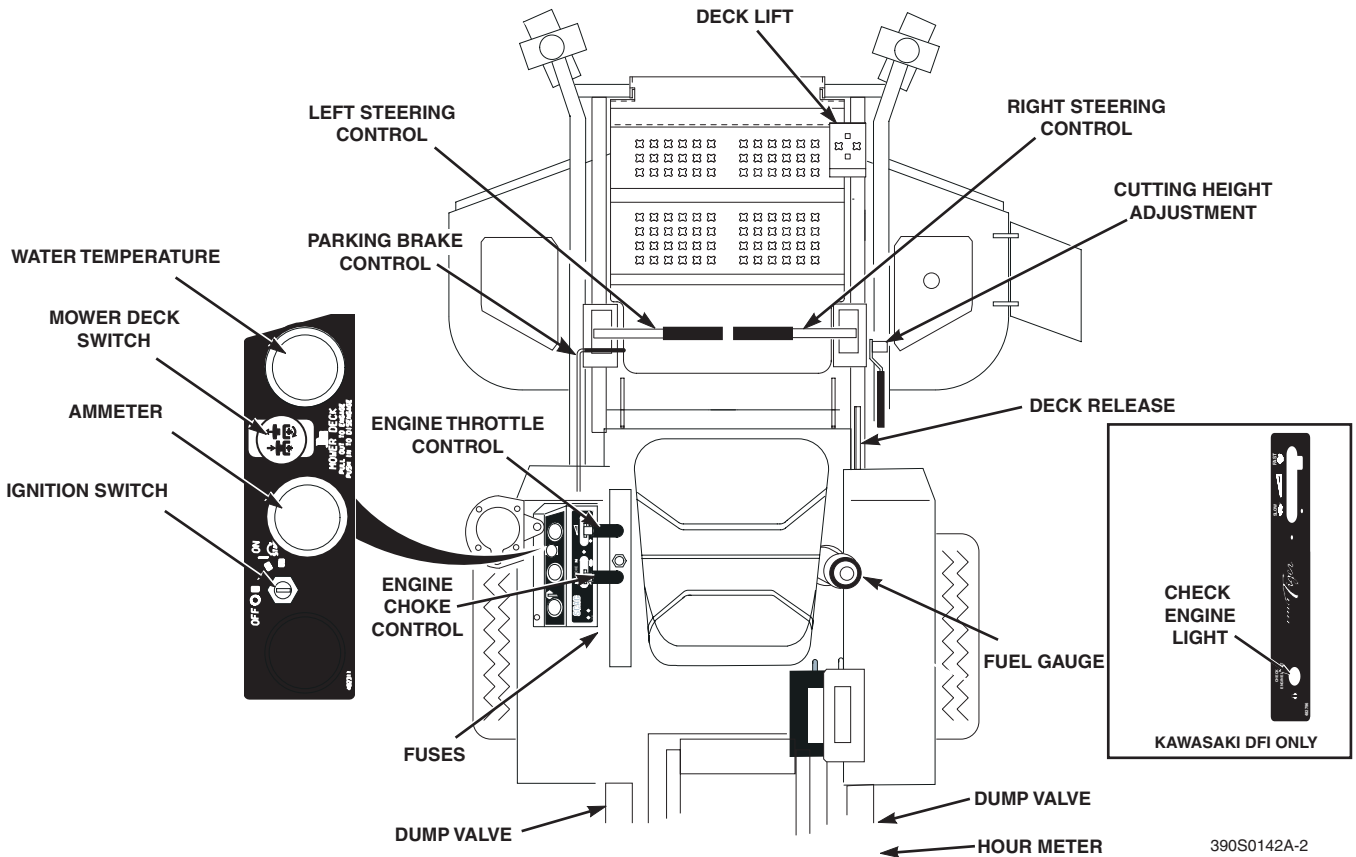

Figure 4-1 Controls and Hour Meter Instruments
- 1. Ignition Switch (Figure 4-1).** The ignition switch is used to start the engine and has three positions; OFF, ON, and START.
- 2. Mower Deck Switch (Figure 4-1).** Used to engage and disengage the mower drive system. Pulling up on the switch will engage the deck drive. Pushing down on the switch will disengage the deck drive.
- 3. Engine Choke Control (Figure 4-1).** Used to start a cold engine.
- 4. Engine Throttle Control (Figure 4-1).** Used to control the engine speed. Pushing the lever forward increases engine speed. Pulling the lever back decreases engine speed. Full back position is the IDLE position. Full forward is the cutting position.
5. **Ammeter (Figure 4-1).** Indicates the condition of the charging system. When the engine is running the needle should be toward the positive end of the meter. If the needle is toward the negative end of the meter, this indicates a discharge condition and the machine should be taken in for service.
6. **Hourmeter (Figure 4-1).** Indicates the number of hours the engine has been operated. It operates whenever the ignition key switch is in the ON position. It can be used to keep track of maintenance intervals and the amount of time required to perform various tasks.
7. **Fuse Holders (Figure 4-1).** Two 20-amp fuses protect the mower's electrical system. To replace fuses, pull fuse out of the socket and install a new fuse.
8. **Left Steering Control (Figure 4-1).** Used to control the mower's left wheel when traveling forward or reverse.
9. **Right Steering Control (Figure 4-1).** Used to control the mower's right wheel when traveling forward or reverse.
10. **Parking Brake Control (Figure 4-1).** Used to engage and disengage the parking brakes. Pull the lever back to engage the parking brakes. Push the lever forward to disengage the parking brakes.
11. **Fuel Tank Gauge (Figure 4-1).** Indicates the amount of fuel in the fuel tank.
13. **Deck Lift Foot Lever (Figure 4-1).** Used to raise and lower the cutter deck.
14. **Cutting Height Adjustment (Figure 4-1).** Used to set the cutter deck at the desired cutting height.
15. **Deck Release Lever (Figure 4-1).** Used to lock the cutter deck in the transport position. Push the foot pedal forward and lift up on the release lever to release the cutter deck for normal mowing.
16. **Temperature Gauge (Figure 4-1).** Indicates the operating temperature of the engine. *Used on mowers with the Kawasaki liquid cooled engine only.*
17. **Check Engine Light (Figure 4-1).** Indicates the operation of the engine sensors on the Kawasaki Digital Fuel Injection (DFI). Light will flash once at initial start up. If problem occurs with a sensor on the engine, the light will flash a code. See your authorized Scag Dealer for diagnosis and repair.